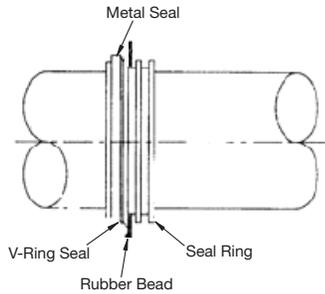

Figure 6
The DROP-IN TRIPLE TECT seal assembly consists of a seal ring, V-ring seal and metal seal with rubber bead (Figure 6).
1. Slide one of the DROP-IN TRIPLE TECT seal assemblies on shaft to the proper location for assembly into the housing. The lip of the V-ring seal must face the bearing (Figure 6).